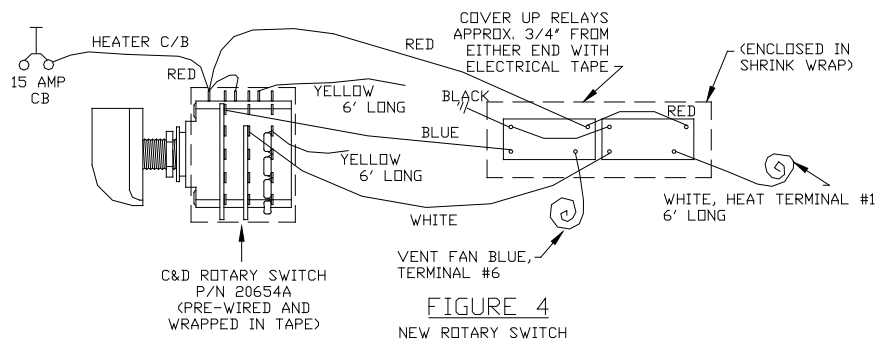

FIGURE 4
- b. If installing the new rotary heater control switch P/N 20654A, locate in a convenient location on the instrument panel. See wiring schematic Fig. 4.